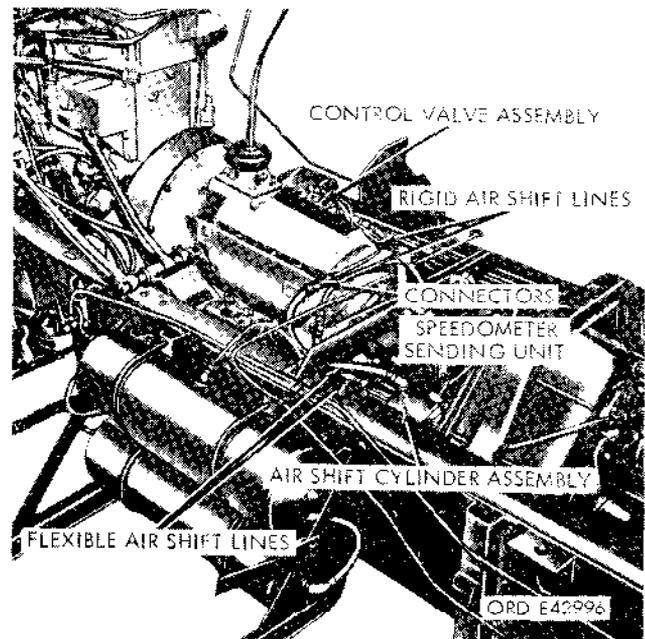

Figure 2-168. Removing air shift lines and connectors.
a. Removal. From underneath the vehicle, unscrew the air shift line connectors (fig. 2-168) at the junction of the rigid and flexible lines.
c. Installation. Connect the flexible lines at the left front of the transfer to the rigid lines at the top rear of the transmission. Tighten the connectors (fig. 2-168).